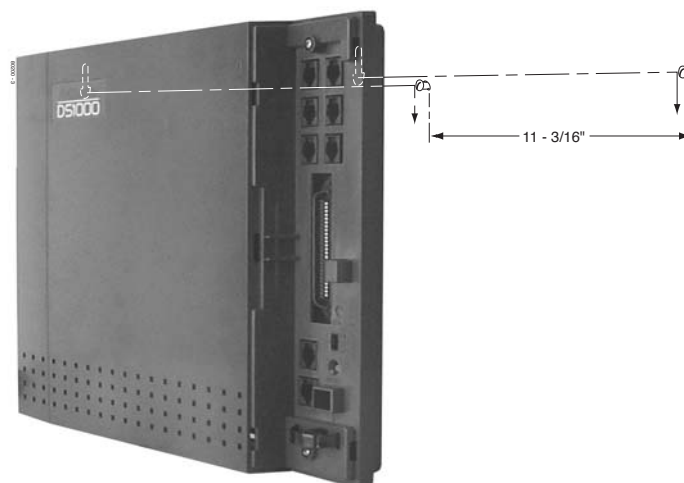

Figure 1-3: Hanging the Cabinet
**To hang the cabinet** (Figure 1-3):